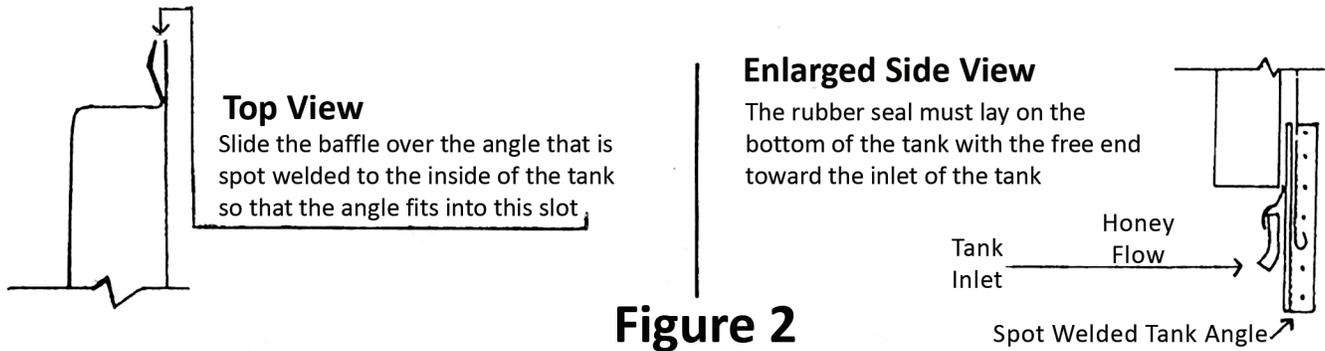

Figure 2
3. Checking the float switch operation - In this type of sump operation, a spud type float method is used. (See Figure 2.) Without the float rod installed, the switch operating lever can be pushed up or down and the lever will remain in either position. If the lever “snaps back” when released, the counterbalance spring must be adjusted (screw adjustment).